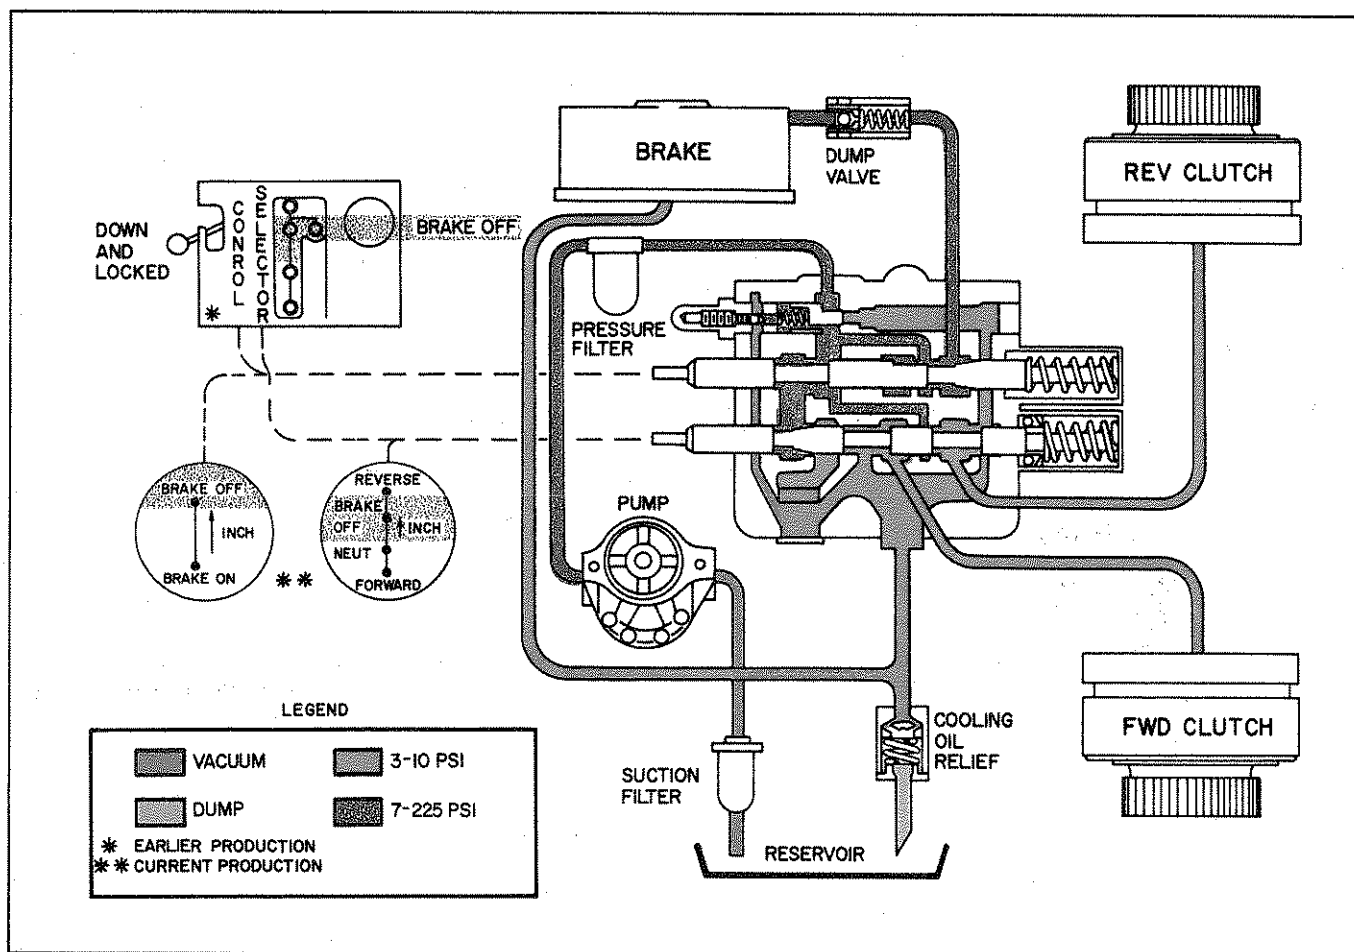

Figure 1-13. Hydraulic Flow Diagram, Gradual Brake Release, Normal Operation
1-26. HYDRAULIC SYSTEM IN GRADUAL BRAKE RELEASE, NORMAL OPERATION. (See Figure 1-13.) On Earlier Production Handling Gear, the system is placed in GRADUAL BRAKE RELEASE, Normal Operation by: (1) Moving the Control Lever Down and locking it in place and (2) Shifting the Selector Lever to the INCH position. On Current Production Handling Gear, this is accomplished by: (1) Locking the Inching Lever in the BRAKE OFF position and (2) Shifting the Selector Lever to the INCH position. When the Control Lever is locked in the Down position or the Inching Lever is locked in the BRAKE OFF position, the inching spool is pulled to its extreme Out position. With the Selector Lever in the INCH position, the selector spool is slightly pulled out from its relaxed position. With the spools in these positions, the hydraulic pump draws oil from the reservoir through the suction filter and delivers it through the pressure filter to the control valve inlet port. Oil will then flow through the valve, past both spools and fill the complete hydraulic circuit. At this time, there